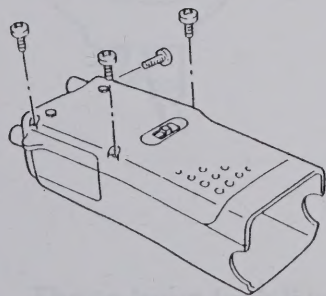

Fig. 1
- 2 Unscrew the four screws on the rear (Fig. 1). The screw near the antenna connector is a short one.